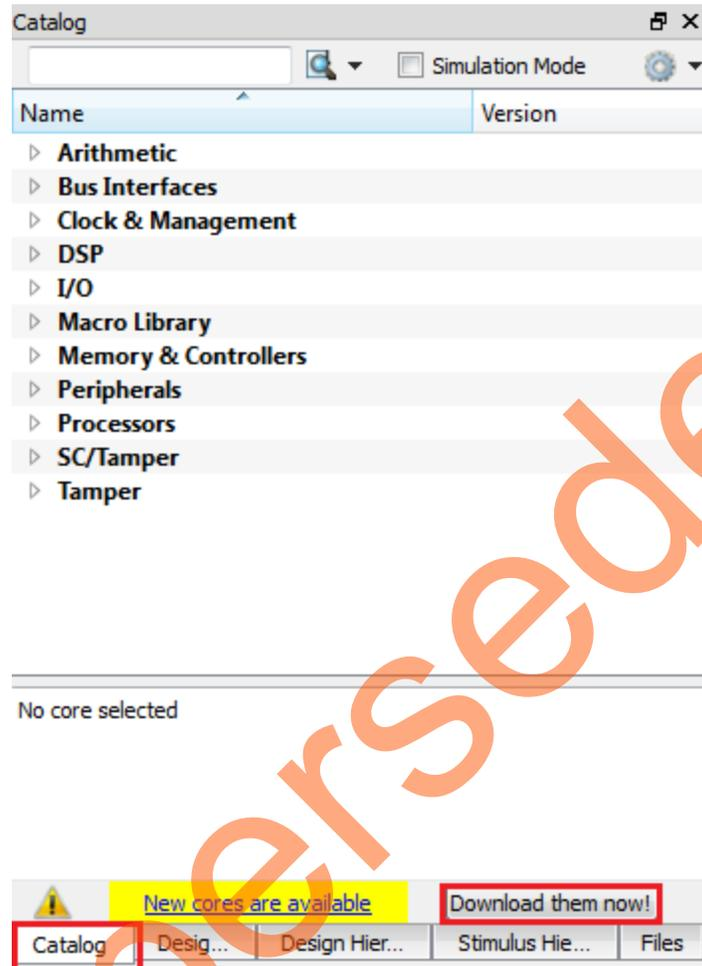

Figure 6. Updating the Catalog
- Click the **Catalog** tab, as shown in Figure 6. If a message is displayed “**New cores are available**”, click **Download them now!**, and download the latest versions of the IP cores.